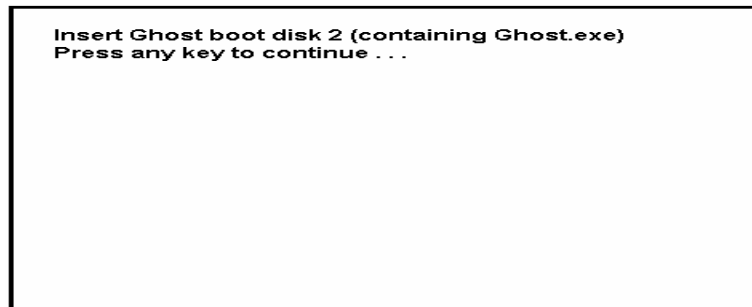

Figure 1-162. Boot Disk #2
7. Press the **Enter** key on the keyboard to select Option 1 and wait until the dialog in Figure 1-162 is displayed.